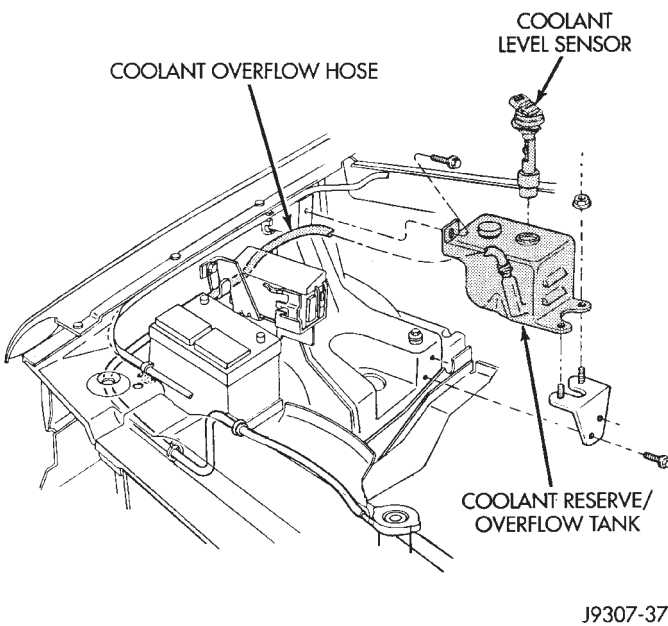

Fig. 31 Coolant Reserve/Overflow Bottle Mounting
- (1) Disconnect the negative battery cable at the battery.
- (2) Remove the coolant reserve/overflow bottle (one bolt and two nuts) (Fig. 31)
(1) Check the pins in the PCM 60-way electrical connector for damage. Repair as necessary.
(2) Install PCM. Tighten three mounting bolts to 1 N•m (9 in. lbs.) torque.
(3) Engage 60-way connector into PCM. Tighten connector mounting bolt to 4 N•m (35 in. lbs.) torque.
(4) Install coolant reserve/overflow bottle (Fig. 31).